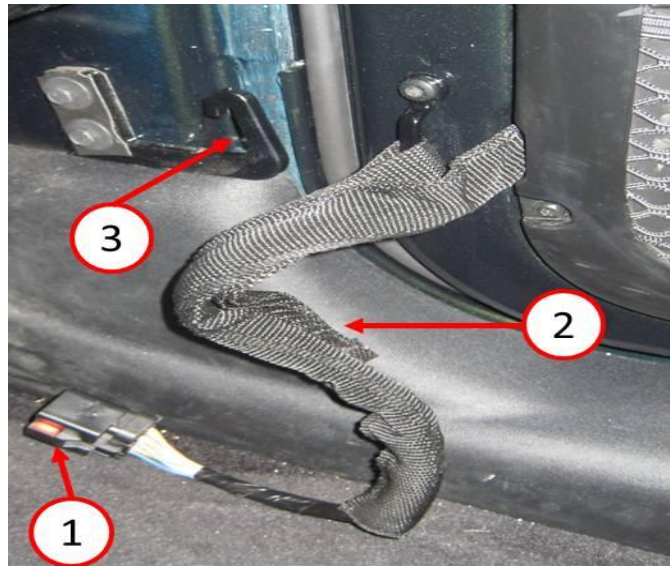

Fig. 8 Disconnect Door Harness and Check Strap
16. Open the suspect front door and disconnect the door wiring harness (1) by pushing red lock and remove cloth check strap (2) from hook (3) (Fig. 8).
- 29. Reconnect the cloth check strap and door wiring harness as shown in (Fig. 8)